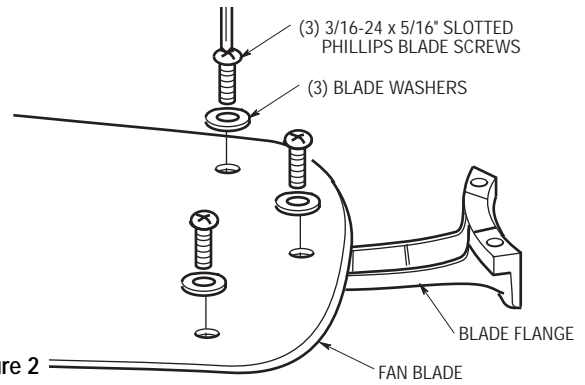

Figure 2
6. Mount blade flanges to fan blades using three 3/16-24 x 5/16" slotted Phillips blade screws and three blade washers (Figure 2).